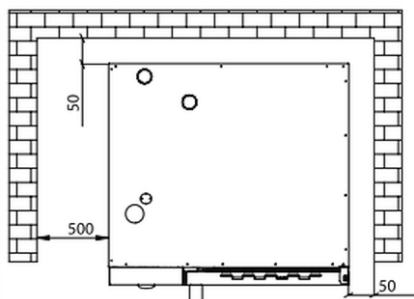

Fig. 3
- Maintain minimum clearance of at least 50 mm at the rear and sides between the appliance and walls or other objects (Fig. 3).